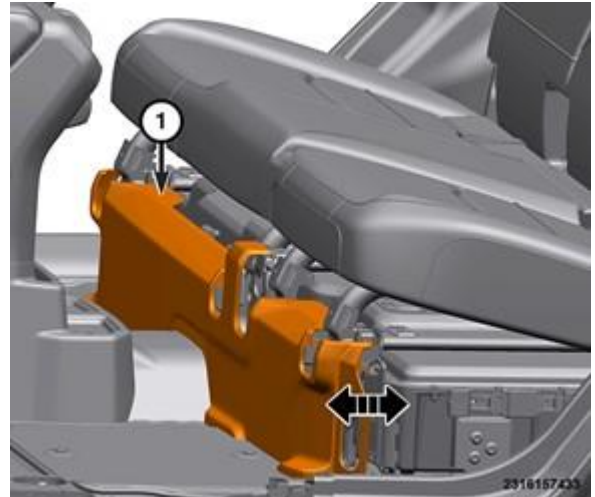

Figure 24 – HV Battery Front Trim
44. Using a trim stick or equivalent, release the retainers from the front high voltage battery closeout and remove from vehicle (Figure 24).